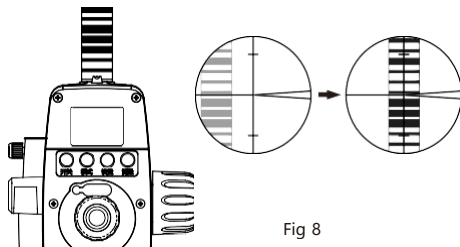

Fig 8
- (2) Target the staff through peep sight. Rotate focusing knob to make the staff image being clear. Coincide vertical hair with the middle of the staff. (figure 8)
- (3) Move your eye sight